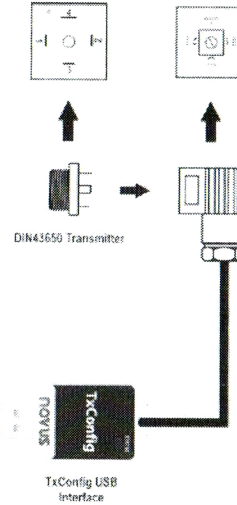
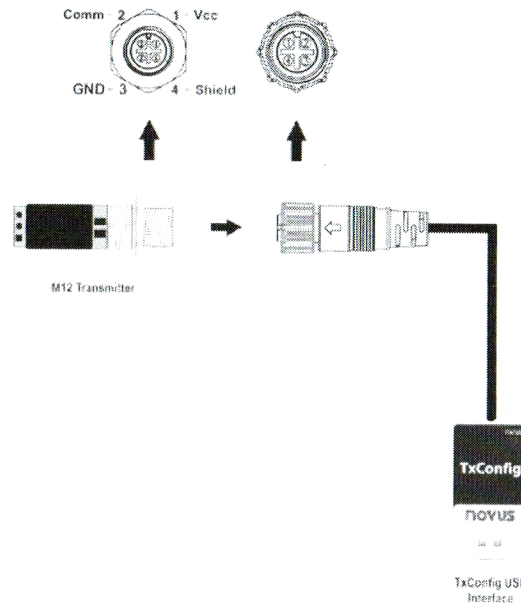

Fig. 1 – TxConfig-DIN43650 electrical connections
Fig. 2 – TxConfig-M12 electrical connections
- Connect the interface to the transmitter as shown in Fig. 1 (DIN43650) and Fig.2 (M12);